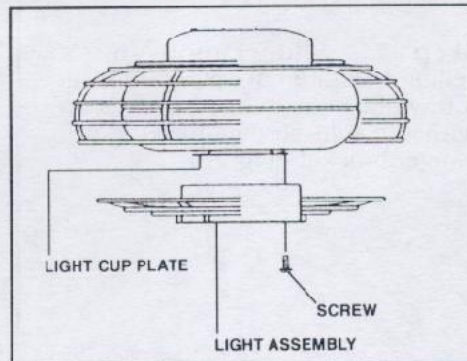

FIG. 17
**Step 1.** Remove one of the three screws located on the light cup plate and loosen (do not remove all the way) the other two screws. (Fig. 17)
**Step 2.** Pass the blue and white wires from the fan through the side hole (from the center) of the Light assembly. Place the Light assembly against the light cup plate and rotate to align the key holes to the two screws from the light cup plate. Turn the Light assembly counterclockwise until secure. Install the third screw previously removed and securely tighten all three screws. (Fig. 17)